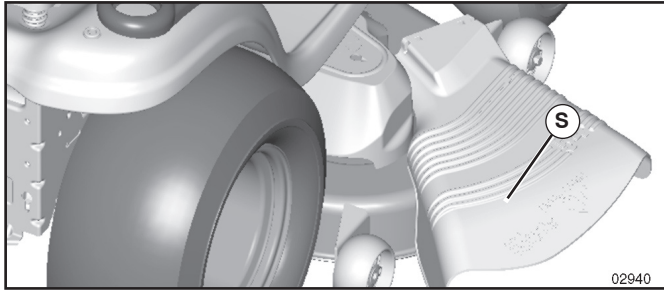

Fig. 20
CAUTION: Do not operate the mower without either the entire grass catcher, on mowers so equipped, or the deflector shield (S) in place. (See Fig. 20)